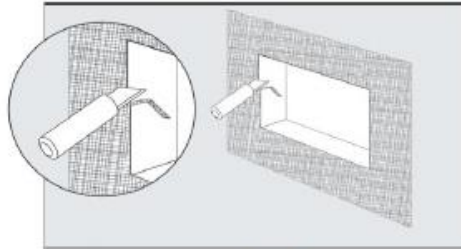

Fig. 5
Step 8: With the sharp knife, trim the excess patch around the inside of the Niche recess (Fig.5)